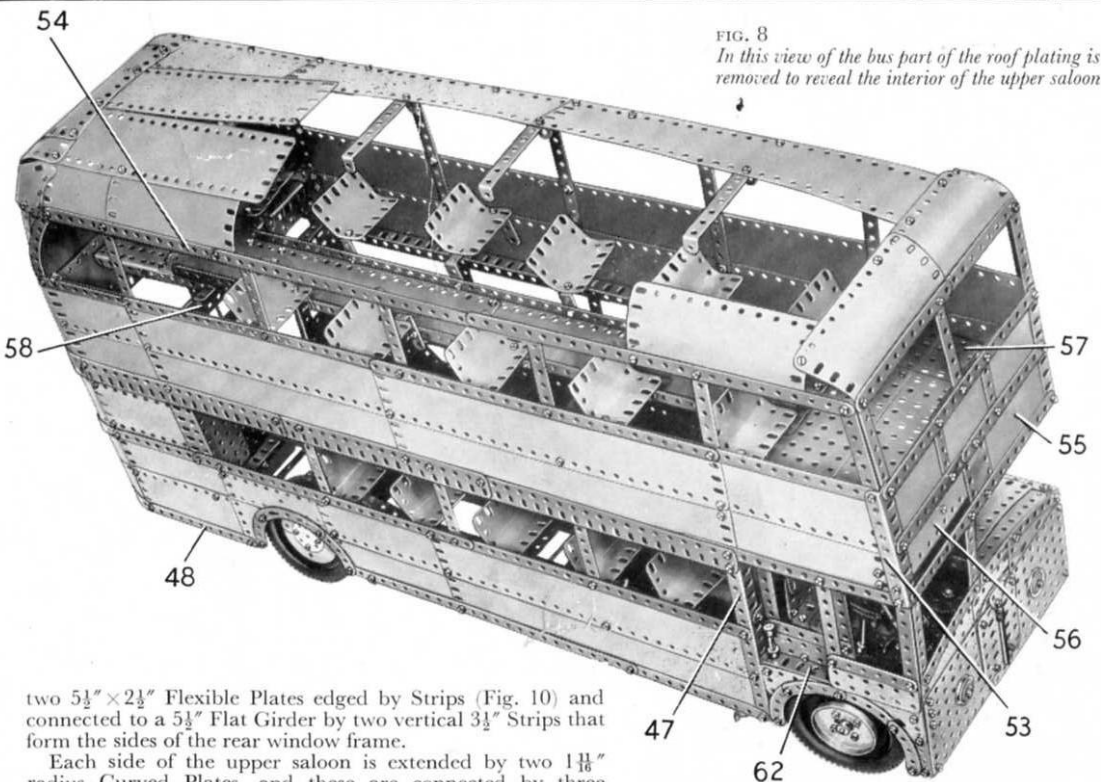
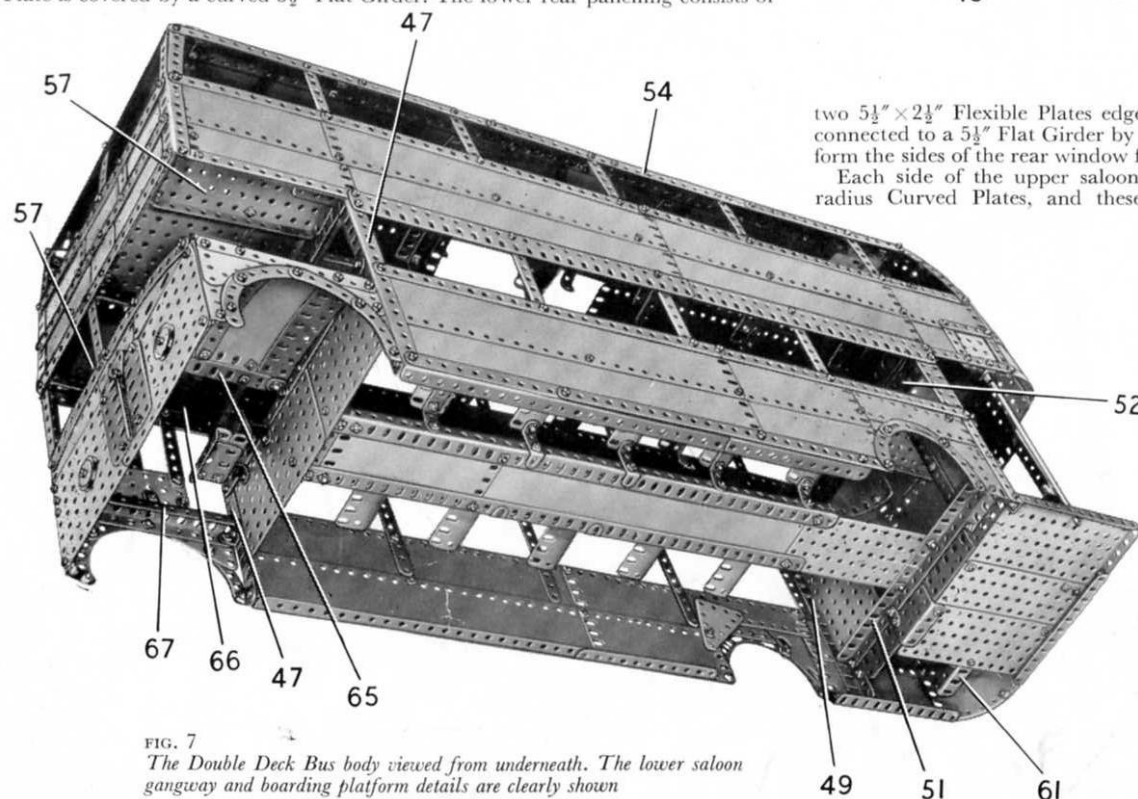

FIG. 8
FIG. 7
The Lower Saloon (Figs. 8 and 9)
The side seen in Fig. 8 consists of two $12\frac{1}{2}" \times 2\frac{1}{2}"$ Strip Plates and four $5\frac{1}{2}" \times 2\frac{1}{2}"$ Flexible Plates, with a $5\frac{1}{2}" \times 1\frac{1}{2}"$ Flexible Plate and a $3\frac{1}{2}" \times 2"$ and a $2\frac{1}{2}" \times 1\frac{1}{2}"$ Triangular Flexible Plate over the rear wheel arch. The Plates are fixed to a $7\frac{1}{2}"$ Angle Girder (47) at the front, and are edged along the top by two $12\frac{1}{2}"$ Strips and a $5\frac{1}{2}"$ Strip. The lower edges are strengthened by a $12\frac{1}{2}"$ Strip, a $5\frac{1}{2}"$ Strip and a $5\frac{1}{2}"$ Angle Girder (48), with a $12\frac{1}{2}"$ and a $5\frac{1}{2}"$ Angle Girder bolted to the inside (Fig. 7). A $9\frac{1}{2}"$ Angle Girder (49) is fixed vertically to the side, and to it are bolted a $4\frac{1}{2}" \times 2\frac{1}{2}"$ Flexible Plate and a $3\frac{1}{2}"$ Flat Girder. The window divisions are $12\frac{1}{2}"$ Strips, each of which overlaps the side by four holes. These Strips are connected by three $9\frac{1}{2}"$ Flat Girders. A $24\frac{1}{2}"$ Angle Girder is bolted along the top row of holes in the Flat Girders, on the inside, starting at the Girder (49) so that it overhangs the Girder (47) by three holes.
The sides are connected at the front by two $5\frac{1}{2}" \times 3\frac{1}{2}"$ Flat Plates overlapped three holes and edged at the top by a $9\frac{1}{2}"$ Strip. The Flat Plates are fixed to the Girders (47), and a $9\frac{1}{2}"$ Angle Girder (50) is bolted between their top ends. A vertical $5\frac{1}{2}" \times 1\frac{1}{2}"$ Flexible Plate is attached to the centre of the Girder (50) and to the Flat Plates. At the rear the sides are connected by $9\frac{1}{2}"$ Angle Girders (51) and (52) (Fig. 7), bolted to the Girders (49).
The side seen in Fig. 8 consists of two $5\frac{1}{2}" \times 2\frac{1}{2}"$ Flexible Plates, four $12\frac{1}{2}" \times 2\frac{1}{2}"$ Strip Plates and two $4\frac{1}{2}" \times 2\frac{1}{2}"$ Flexible Plates. These are fixed to the vertical $12\frac{1}{2}"$ Strips that form the window divisions. At the front a $4\frac{1}{2}"$ Angle Girder (53) is connected to the top edge of the lower saloon by a $7\frac{1}{2}"$ Strip. The top edges of the Plates are strengthened by two $12\frac{1}{2}"$ Strips and two $5\frac{1}{2}"$ Strips. A built-up strip (54), made from three $12\frac{1}{2}"$ Strips, is bolted to the top ends of the window divisions. In addition to the vertical $12\frac{1}{2}"$ Strips, two $5\frac{1}{2}"$ Strips, a 4" Curved Strip and a $3\frac{1}{2}"$ Strip at the front, are used to form the windows of the upper saloon.
At the front of the bus the Girders (53) are connected by two $9\frac{1}{2}$ " Strips and a built-up strip made from two $5\frac{1}{2}$ " Strips overlapped three holes (Fig. 8). The front is plated by three $3\frac{1}{2}$ " \times $2\frac{1}{2}$ " Flexible Plates at the top, with one half of a Hinged Flat Plate (55), a $2\frac{1}{2}$ " \times $1\frac{1}{2}$ " Flexible Plate and a $5\frac{1}{2}$ " \times $1\frac{1}{2}$ " Flexible Plate (56) below them. The Plate (56) is extended upward by another $5\frac{1}{2}$ " \times $1\frac{1}{2}$ " Flexible Plate, and this is recessed from the $3\frac{1}{2}$ " \times $2\frac{1}{2}$ " Flexible Plates by nuts on the bolts that fix them together. The front ends of the strips (54) are connected by Angle Brackets to two $5\frac{1}{2}$ " Strips overlapped three holes.
A $5\frac{1}{2}$ " \times $2\frac{1}{2}$ " Flanged Plate (57) (Fig. 7) is bolted to each side, and these are connected by a $5\frac{1}{2}$ " \times $3\frac{1}{2}$ " Flat Plate and a $5\frac{1}{2}$ " \times $2\frac{1}{2}$ " Flat Plate. At the rear a $9\frac{1}{2}$ " Flat Girder (58) is bolted between the top ends of the Girders (49) and a $5\frac{1}{2}$ " \times $2\frac{1}{2}$ " Flanged Plate is fixed between this Flat Girder and the rear panelling. Two $4\frac{1}{2}$ " \times $2\frac{1}{2}$ " Flexible Plates secured to the Flanged Plate provide a cover over the boarding platform. A $4\frac{1}{2}$ " Angle Girder is fixed to the centre of the Flat Girder (58).
Rear Panelling and Boarding Platform (Figs. 7, 8 and 10)
The side of the lower saloon seen in Fig. 8 is extended at the rear by three curved $5\frac{1}{2}"$ \times $2\frac{1}{2}"$ Flexible Plates, the lower one edged by a Formed Slotted Strip at the bottom, and by a curved $5\frac{1}{2}"$ Strip along its top edge. The lower edge of the top Plate is covered by a curved $5\frac{1}{2}"$ Flat Girder. The lower rear panelling consists of
The platform floor is formed by a $5\frac{1}{2}"$ \times $3\frac{1}{2}"$ and two $5\frac{1}{2}"$ \times $2\frac{1}{2}"$ Flat Plates edged by $5\frac{1}{2}"$ Angle Girders as shown (Figs. 7 and 10). A built-up flat girder, made from a $7\frac{1}{2}"$ and a $2\frac{1}{2}"$ Flat Girder, is bolted to a $9\frac{1}{2}"$ Strip fixed across the Girders (49) and is connected to the floor by a Girder Bracket.
The Bonnet and Cab (Figs. 8 and 9)
The off-side of the cab is made by attaching a $5\frac{1}{2}$ " Angle Girder (62) (Fig. 8), to the Girder (47) by means of an Angle Bracket. The front end of the Girder (62) is connected to the Girder (53) by a $5\frac{1}{2}$ " Strip. The side is plated by a $2\frac{1}{2}$ " \times $1\frac{1}{2}$ " and a $2\frac{1}{2}$ " \times $2\frac{1}{2}$ " Triangular Flexible Plate, and by a 3 " \times $1\frac{1}{2}$ " Flat Plate.